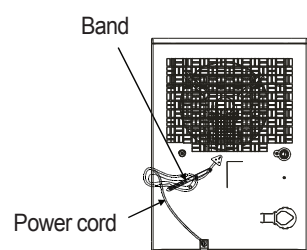

Fig. 16
- Wrap the cord and bundle it with the band (see Fig.16).